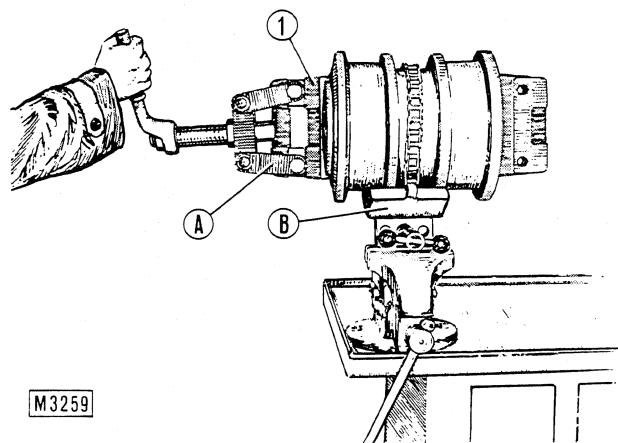

Fig. 11-17 - Disassembly of a roller support (1) using screw puller 75295488
To pull out supports (8, Fig. 11-19) clamp each roller in a vice by fixture 75291417 (B, Fig. 11-17) and operate as follows:
- Turn supports (8) in such a way as to disengage half-rings (13) from their grooves.
Should this disassembly prove to be difficult, use screw puller 75295488 (A, Fig. 11-17). Disinsert O-rings (10, Fig. 11-19) and face seal halves (4) keeping them paired to prevent interchanging at reassembly.